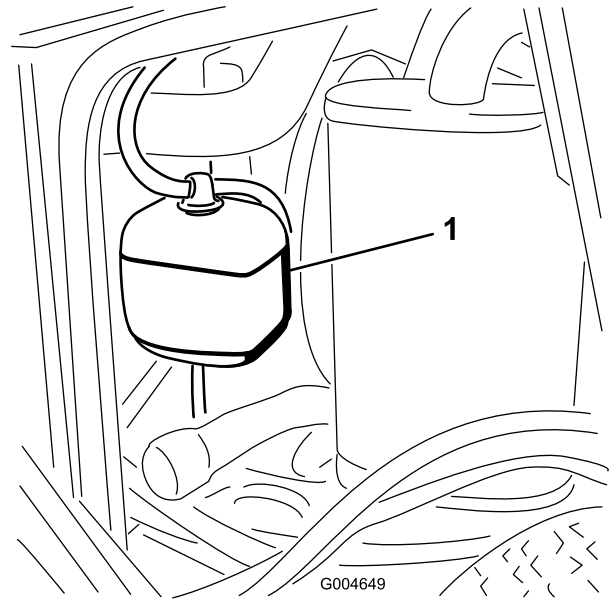

Figure 51
1. Check the level of the coolant in the expansion tank (Figure 51). The coolant level should be between the marks on the side of the tank.